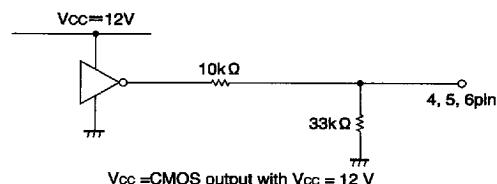

Fig.7
- (1) Though the IC input pins can be directly connected with MOS output pins, it is recommendable to connect resistors of about $3 \sim 30\text{ k}\Omega$ between the pins for the sake of pin protection (see Fig. 7).
- (2) When reversing the rotational direction of a motor, make sure to go through the brake mode in-between the opposite directions. It is recommendable to keep the brake mode for at least $10\text{ }\mu\text{s}$.
- (3) Powering procedures should be designed so that V_{CC1} (pin 7) always rises first and falls last.